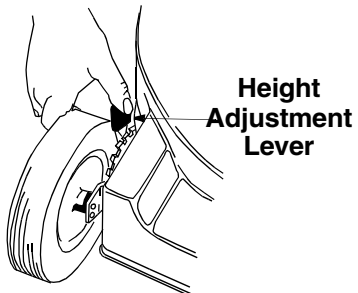

Figure 11
- Simply depress the lever towards wheel and move wheel and lever assembly to desired position. All wheels must be placed in the same relative position. See Figure 11.